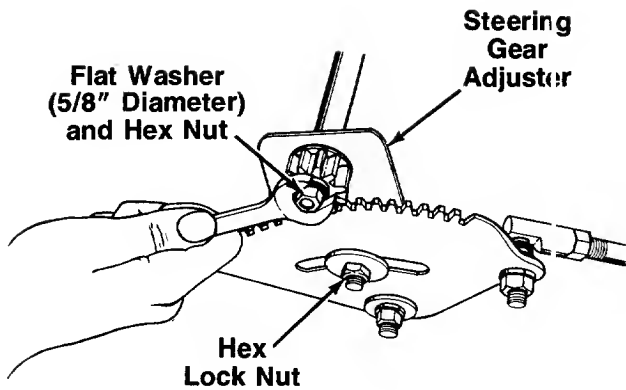

FIGURE 6.
11. Now tighten the hex nut which secures the pinion gear. See figure 6.
12. Make certain the hex lock nut which secures the steering segment to the steering gear support bracket (shown in figure 6) is tightened so there is no play between the two parts. Do not over-tighten as the steering segment must be free to turn.